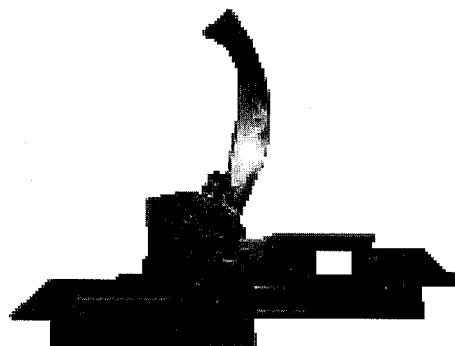

Fig 21
- 3) The unloading lever shall be at the position shown in Figure 21